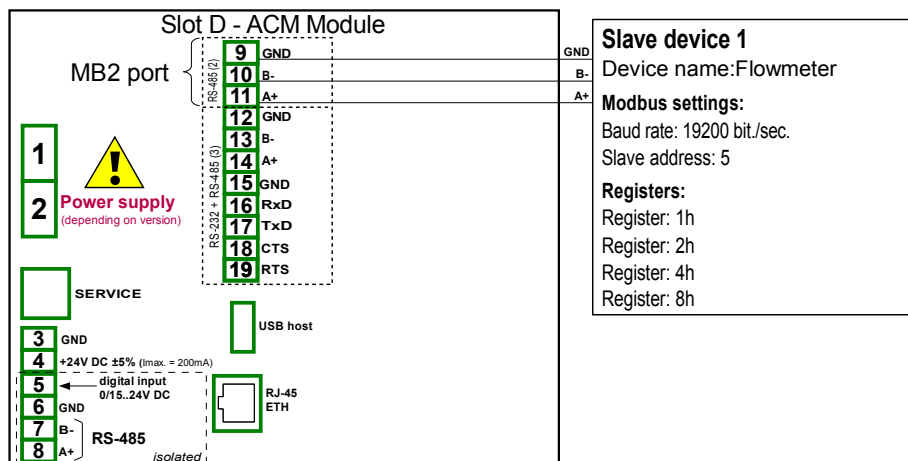

Fig. 7.154. Connection diagram for the Modbus MB2 port
First we need to configure the device according to the following recommendations, then connect the device in according with **Fig. 7.154**.
- using the arrows in the upper right corner choose **Port number: 1** (MB1 in accordance with Fig. 7.154),